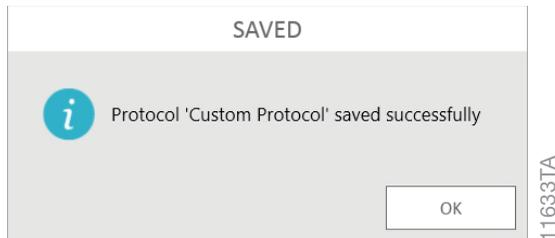

Figure 21. GloMax® Discover New Protocol Successfully Saved user message.
7. Save the protocol by selecting either the **Save** or **Save As** button on the bottom right corner of the screen. If requested, enter any protocol name and description information and press the **OK** button. A user message will appear indicating that the protocol was saved successfully (Figure 21).